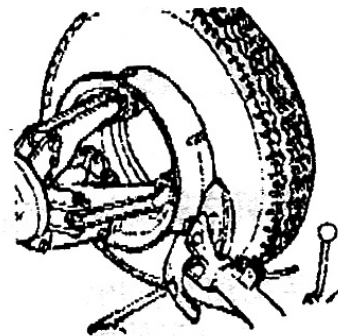

Fig2.15
- 6) Put the plate on the other side of the tire. Push and turn the tire, until half of the tire has been pushed out (Fig2.15).